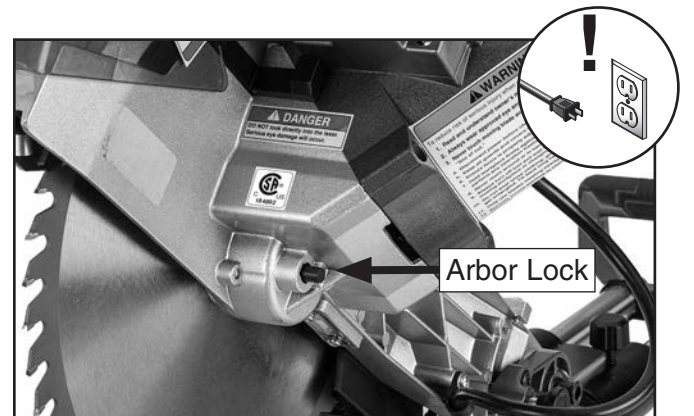

Figure 33. Arbor lock location.
5. Push in arbor lock (see **Figure 33**) and rotate existing blade until it locks in place (or rotate arbor if no blade is installed).